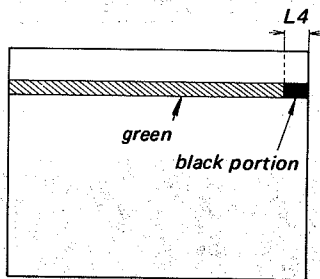

Fig. 4-3.
3. HOR (W): Adjust RV114 so that the width (L4) of the black portion becomes about 6mm from the right side of the screen. (Fig. 4-3.)